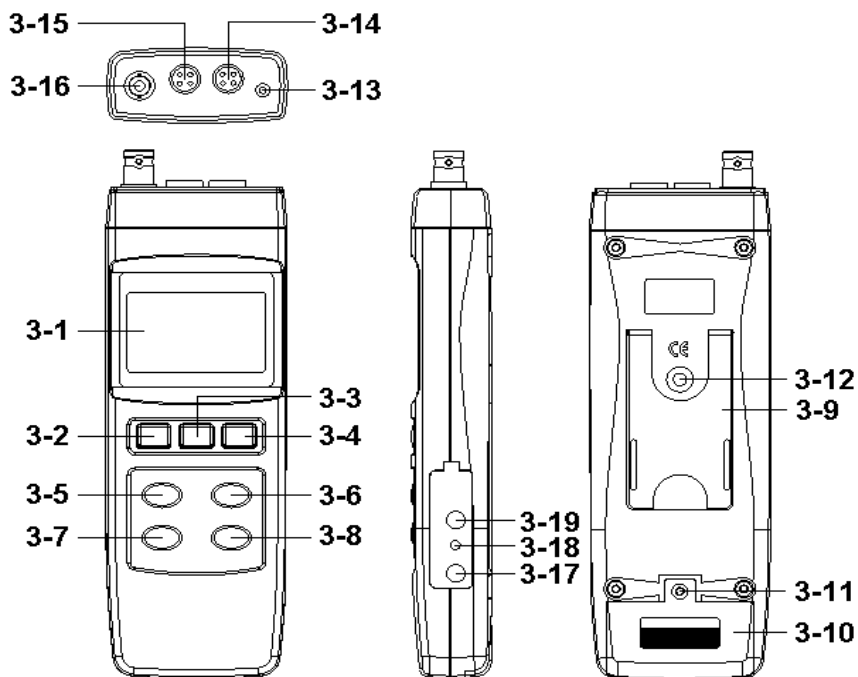
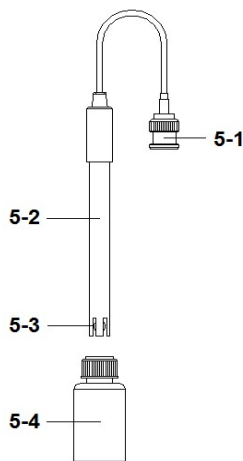

Fig.1
Fig. 2
(3-2, Fig. 1) momentarily.
** Pressing the " Power Button " (3-2, Fig. 1)
Use the " Function Button " (3-6, Fig. 1) Key to select intent test function. Display will show the following text in sequence :
(3-2, Fig. 1) once.
Use the " Function Button " (3-6, Fig. 1) Key, select to
" Probe Plug " (5-1, Fig. 2) into the " PH Socket/BNC
Socket " (3-16, Fig. 1).
- 4) Hold the " Electrode Handle " (5-2, Fig. 2) by hand
and let the " Sensing head " (5-3, Fig. 2) immersed
(3-13, Fig. 1), immerse the sensing head of temperature
When not use the Electrode, it should immerse the " Electrode sensing head " (5-3, Fig. 2) into the " Protection bottle " (5-4, Fig. 2)
- 1) Use the " Function Button " (3-6, Fig. 1) Key, select to mV (ORP) measurement Function.
- 2) Prepare the ORP Electrode (optional, ORP-14), install the " Probe Plug " of ORP electrode into the " PH Socket/BNC Socket " (3-16, Fig. 1).
- 1) Prepare the pH Electrode (optional), install the " Probe Plug " (5-1, Fig. 2) into the " PH Socket/BNC Socket " (3-16, Fig. 1).
- 2) Power on the meter by pressing " Power Button " (3-2, Fig. 1) once.
- 4) Hold the " Electrode Handle " (5-2, Fig. 2) by hand and let the " Sensing head " (5-3, Fig. 2) immersed wholly into the measured solution and little shake the probe. Display will show the PH value.